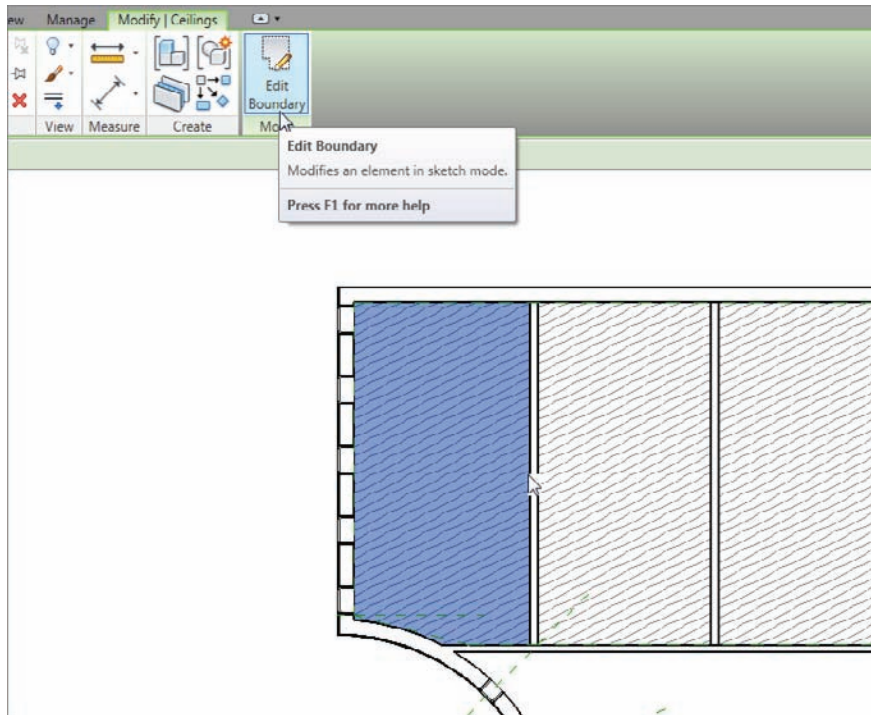

FIGURE 9.23 Clicking the Edit Boundary button on the Modify | Ceilings tab
2. Zoom in to the wood ceilings in the west wing, as shown in Figure 9.23.
4. After the ceiling is selected, click the Edit Boundary button on the Modify | Ceilings tab, as shown in Figure 9.23. The ceiling pattern disappears and is replaced by a magenta sketch line at the perimeter of the room.